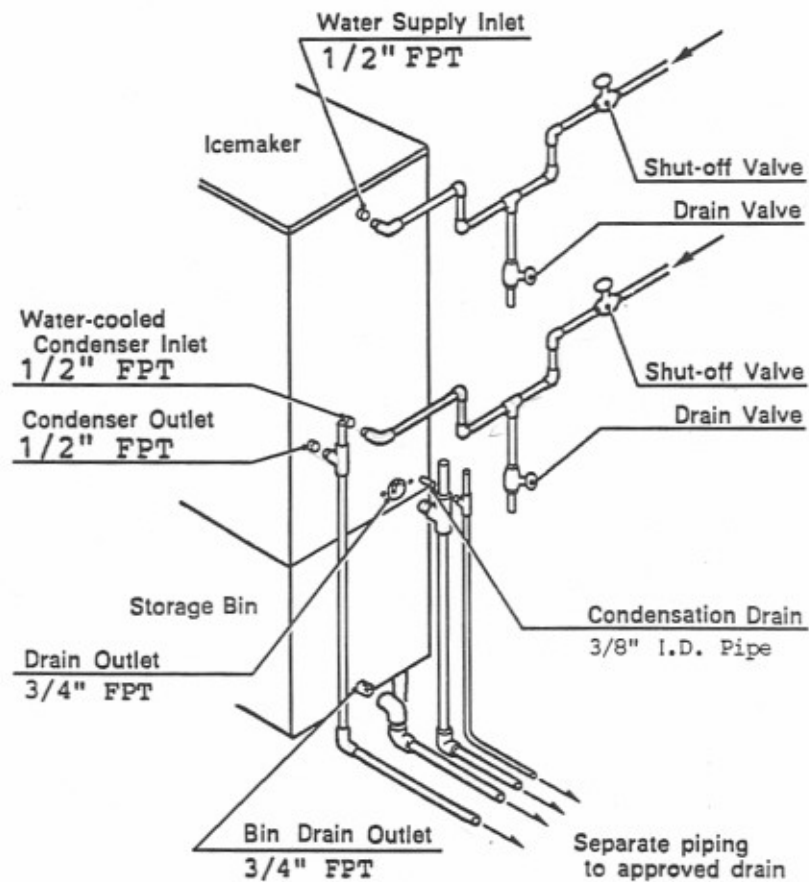

Fig. 9
7. WATER SUPPLY AND DRAIN CONNECTIONS - See Fig. 9
- 6) Close the Water-cooled Condenser Water Supply Line Shut-off Valve. See Fig. 9.
- 4) Close the Potable Water Supply Line Shut-off Valve and open the Potable Water Supply Line Drain Valve. See Fig. 9.